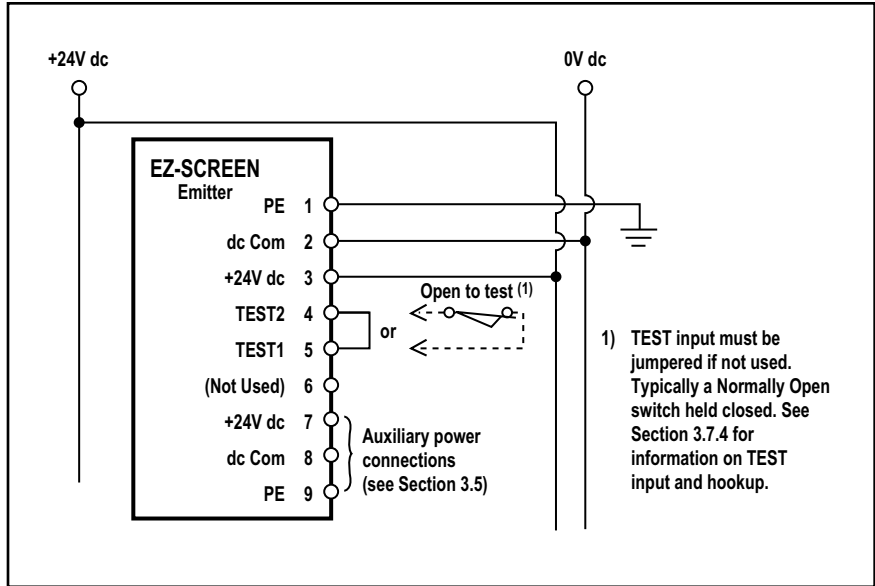

Figure 3-18. EZ-SCREEN emitter generic hookup
2. Verify that power is removed from the EZ-SCREEN System and from the guarded machine. Remove all obstructions from the light beam. Leaving power to the guarded machine OFF, power up the EZ-SCREEN System. Verify that input power is present to both emitter and receiver. *Do not operate the EZ-SCREEN System without a proper earth ground at the  terminal on both sensors, as shown in Figures 3-18 through 3-21. At least one indicator on both emitter and receiver should be ON.*